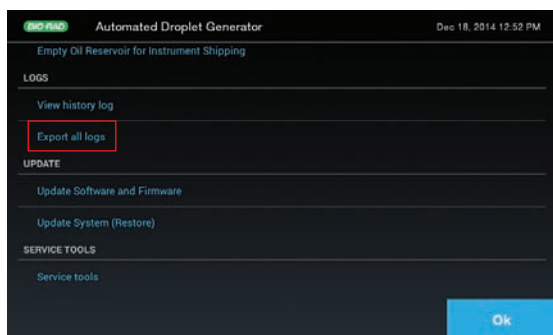

Fig. 34. Logs section of the Settings menu.
5. Touch **Export all logs** at the bottom of the screen (Figure 34).